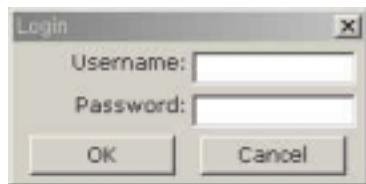

Figure 5-8. User Authentication in iCanView110
- **Authentication for Viewing** : If you want to restrict viewing access to the iCanView110, check "Yes" box and click on "Save". Users need to input ID and password to connect to iCanView110 in viewing mode. (Figure 5-8.)